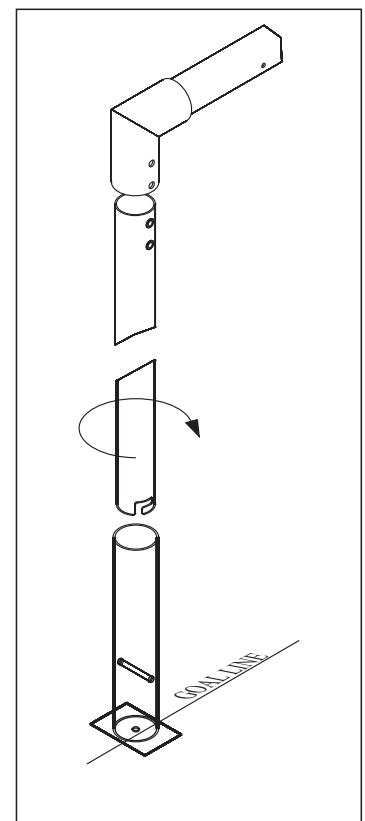

Fig 3
- 1 Fit the net hooks (4) to the crossbar (1) (Hooks are not supplied with Mini-Soccer Goals).
- 2 Insert the uprights into the sockets (make sure that the rivet nuts face the back of the goal). For posts with locking sockets you will need to twist the upright to lock (as shown in Fig 3).